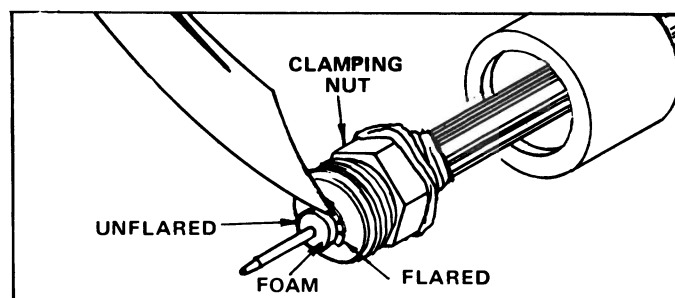

FIGURE 3
STEP 3. Turn tabs up 90 degrees with point of knife as shown in Figure 3. Remove tape from clamping nut.